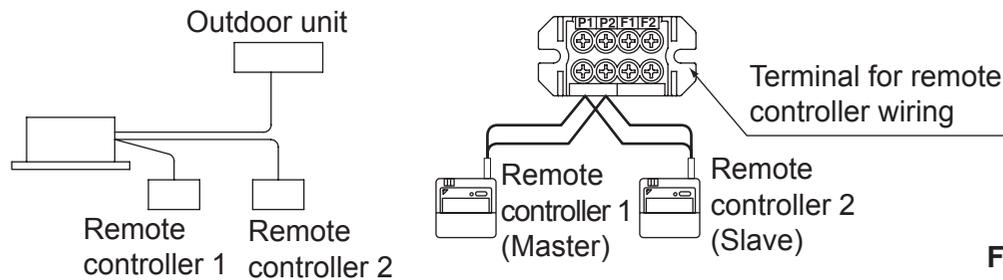

Fig. 35
- **2 remote controllers control:** 2 remote controllers control 1 indoor unit. (Refer to Fig. 35)